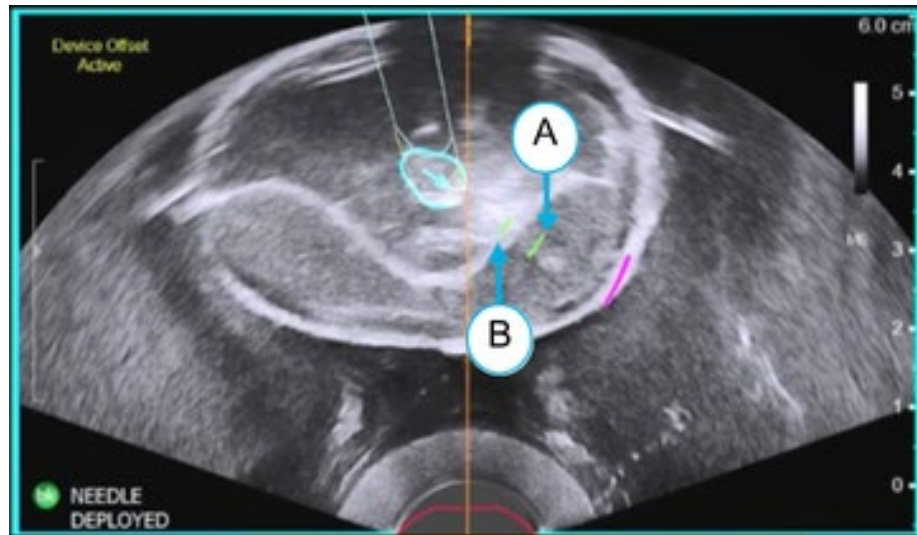

Figure 12-16: Location of Vapor Emitter Holes
■ **NOTE:** Once deployed, the magenta-colored projected needle path changes to two green arches. The most distal green arch (**A**) depicts the estimated location of the Needle tip, and the proximal arch (**B**) depicts the estimated location of the most proximal emitter holes. Vapor will be emitted between the two green arches (**Figure 12-16**).